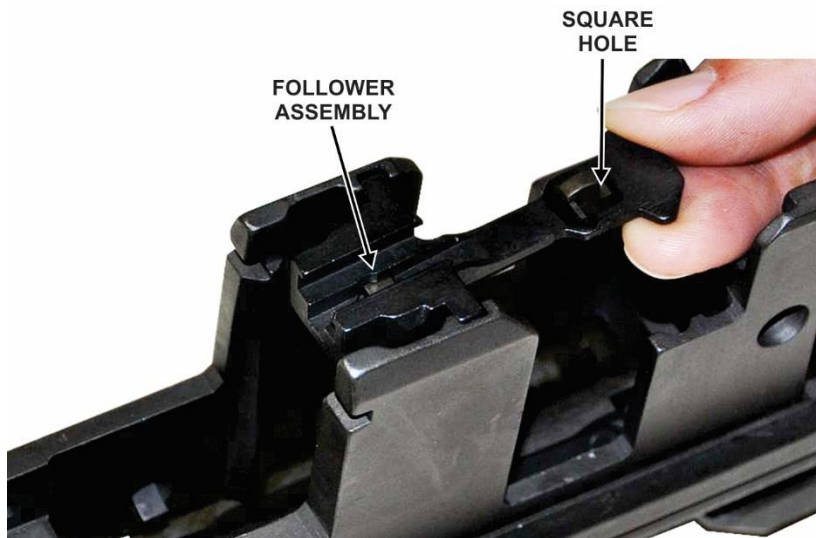

Figure 41. Follower assembly insertion
- 10) Invert weapon and replace the follower assembly so that its guide ribs fit into their corresponding grooves on the receiver. Make sure that the slide of the follower is down and that the square hole is to the rear (fig 41). The slide will rest against the bolt.